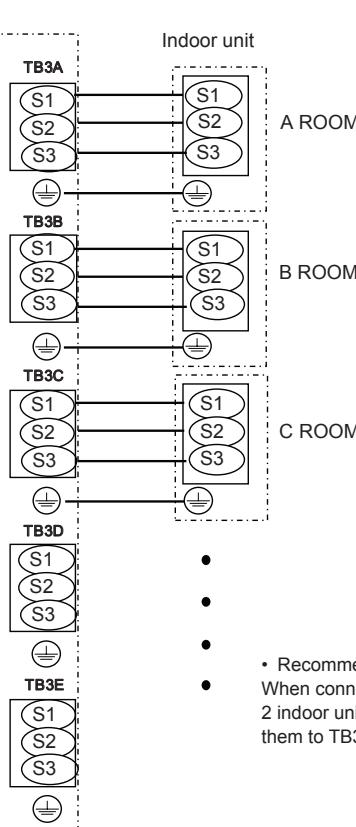

Fig. 8-10
8.2. External wiring procedure (Fig. 8-9, Fig 8-10)
⑤ Power supply: Single phase 208 /230V, 60 Hz